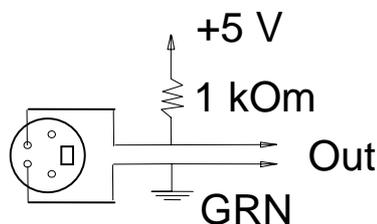

Figure 5.3
11. "REM" -«EXT» - remote status connector. Output optoisolated FET switch is on during absence of optical pulse train (fig. 5.3).